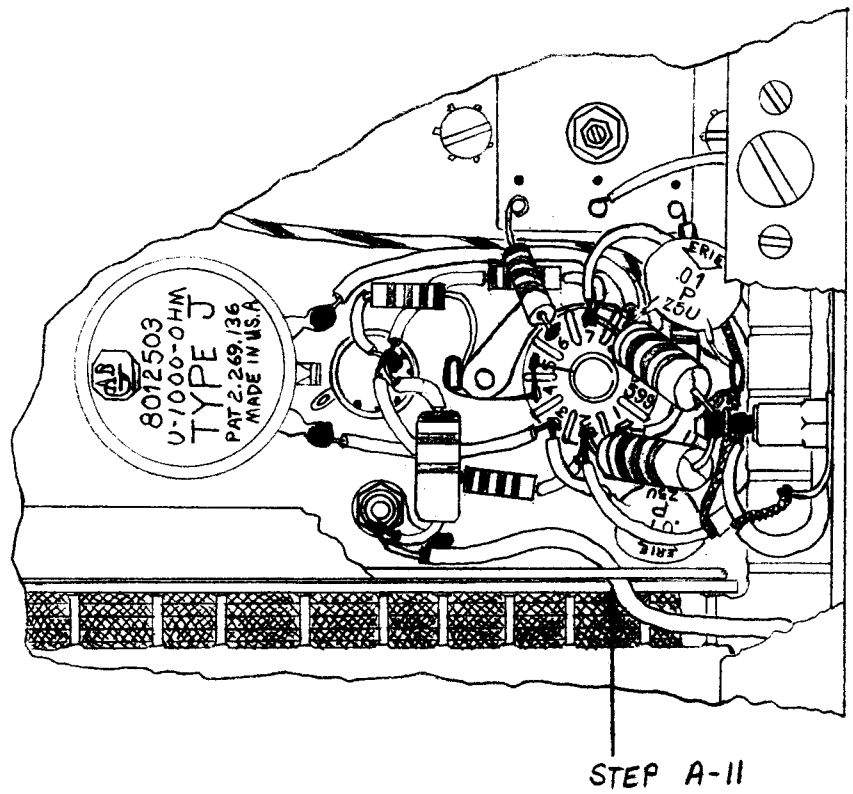

FIGURE 2
11. Insert RF cable (Item 1) through hole found on RF shield wraparound as shown in Figure 2.
19. Check modifications to see that everything conforms with Figure 2.